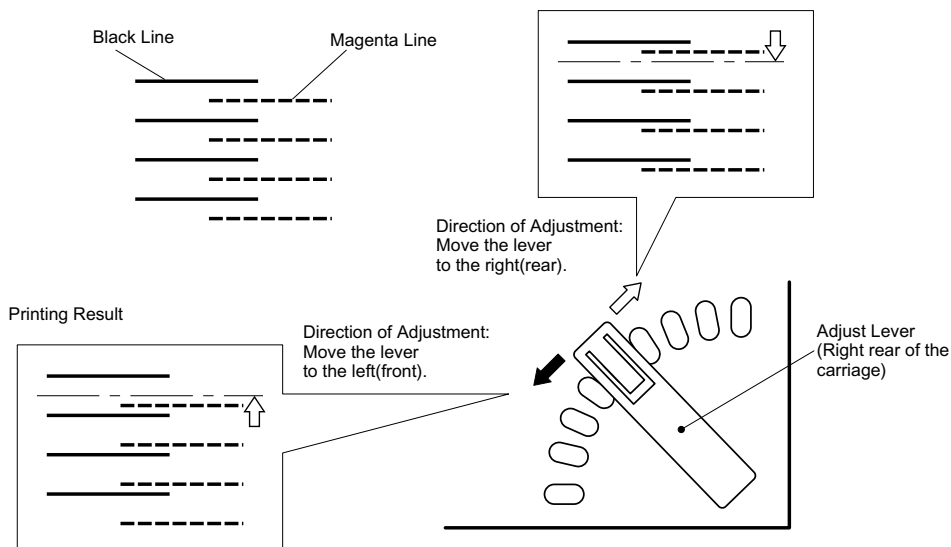

Figure 4-6. Adjustment of Combination Pattern of Black and Magenta
- Pay attention to the combination pattern of black/magenta and change the position of the adjust lever so that a magenta line comes to between above and below black lines, adjusting the print head angle by the adjust lever. The figure 4-6 below shows changes of actual printing pattern of black/magenta combination with the operation of the adjust lever.